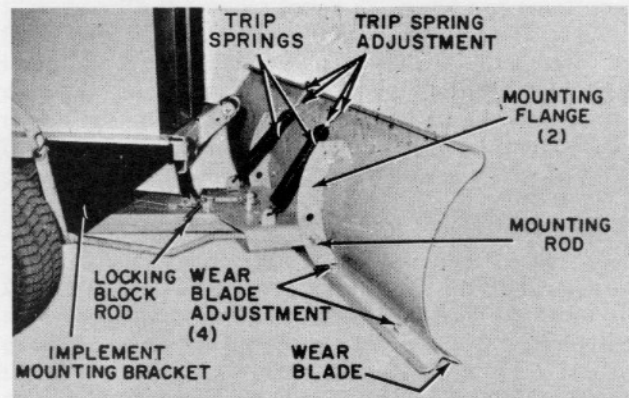
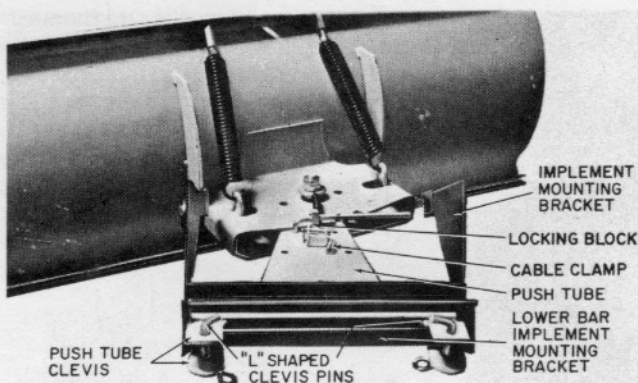

Figure 2
Figure 3
1. Engage the lower bar of the implement mounting bracket with the open end of each clevis on the blade push tube. Secure with L-shaped clevis pins and hair pin cotters. See Figure 3. Note in Figure 2 that the mounting rod fits in the lower holes of the blade mounting flanges.
4. While holding the locking block rod to the rear, place the wire portion of the cable in the slot of the cable clamp and slowly release the locking block rod until the sheath of the cable engages the cable clamp. See Figures 2 and 3.
**Wear Blade** - For normal use of the Snow/Dozer Blade, the wear blade is set so that it provides a continuous curve from the back blade to the ground, as shown in Figure 2. If the working area is very rough, the cutting action of the wear blade should be reduced by loosening the four bolts on the bottom back side and moving the wear blade slightly forward. When retightened in this position, the cutting is reduced. Alternatively, if more aggressive cutting is desired, loosen the four bolts and move the wear blade rearward.
**Trip Springs** - For normal adjustment of the trip springs, allow 3-1/2 inch between each spring and the top of its adjusting bolt as shown in Figure 2. This spacing may be varied to accommodate differing plow conditions. For example, if it is necessary to plow snow from a flagstone patio or walk, the trip springs should be set lightly (maximum spacing) to prevent dislodging the flagstones. Conversely, a minimum spacing would prevent the blade from tripping easily during earthmoving. The trip spring tension (and spacing) may